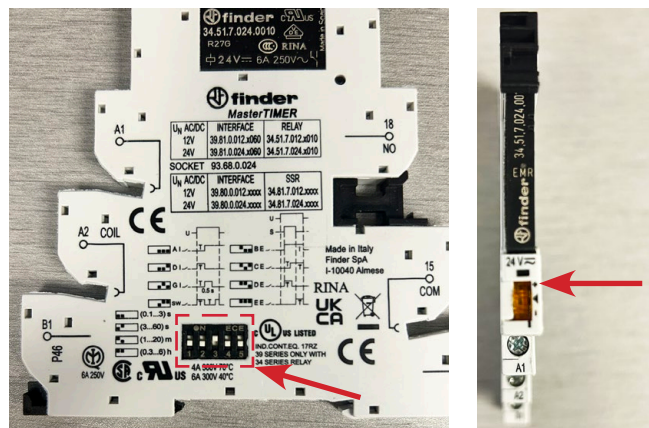

Figure 3
1. Verify the timer relay switch positions are as follows (see *Figure 3*):